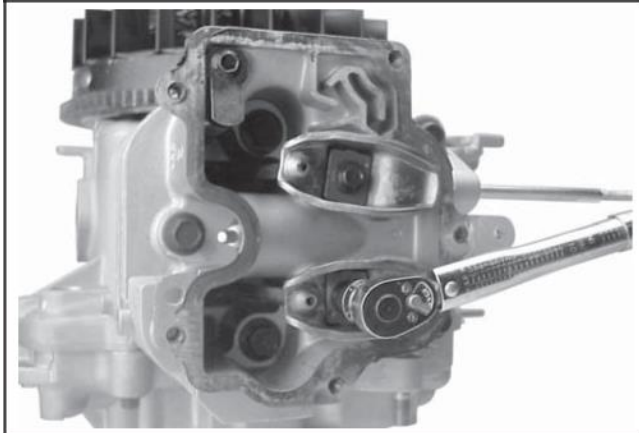

Figure 11-45. Torquing Rocker Arm Mounting Screws.
- a. Seat the push rods into sockets under the end of the rocker arm and align the rocker arms over the valve stems. Hold the rocker arm in the position and torque the screws to **11.3 N·m (100 in. lb.)**. See Figure 11-45.